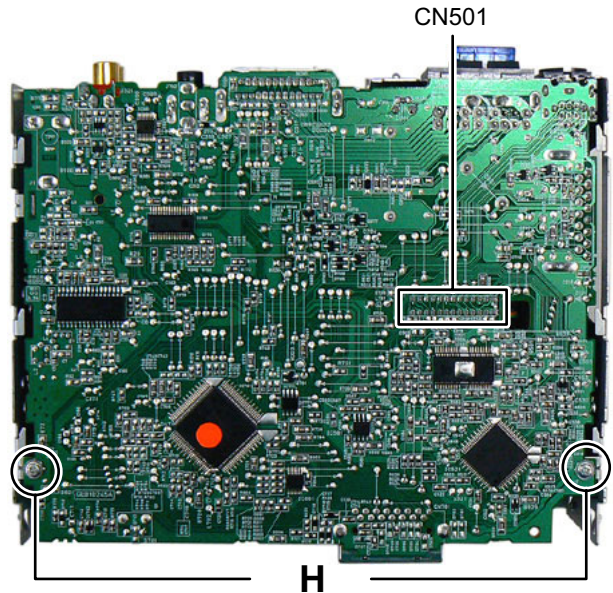

Fig.6
- (2) Remove the two screws **H** attaching the MAIN BOARD assembly. (See Fig.6)
- (3) Disconnect the connector **CN501** connected to MAIN BOARD assembly and CD MECHANISM assembly. (See Fig.6)